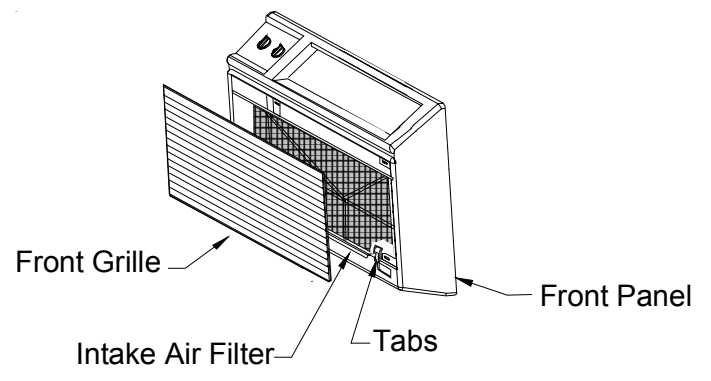

Figure 14
2. Remove intake air filter (Figure 14) from front panel.